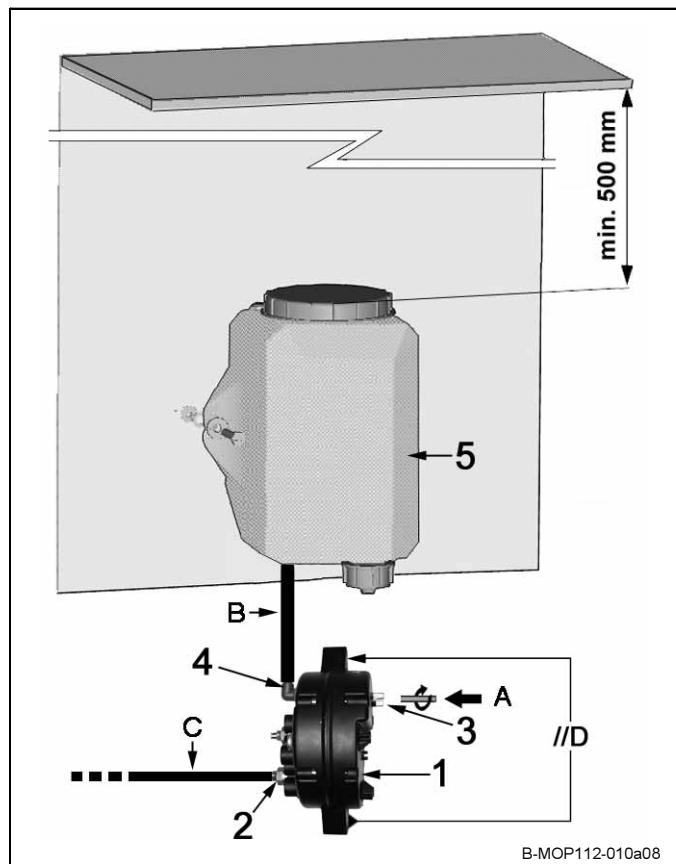

Fig. 1 Installation of MOP and reservoir
- ⦿ Install the MOP 1 (Fig. 1) vertically and on smooth planes (//D = max. 0.3 mm) directing the MOP driving shaft 3 to the prolonged driving shaft A (provided by the user).
- Connect the port on the bottom of reservoir 5 (Fig. 1) with supply line B (\varnothing 12 mm) and with MOP inlet port 4.